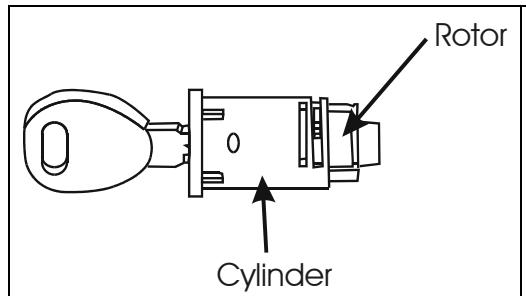
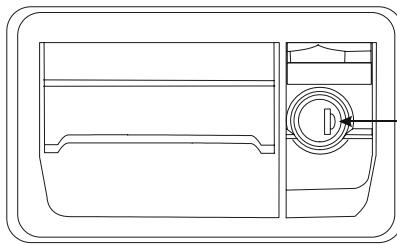
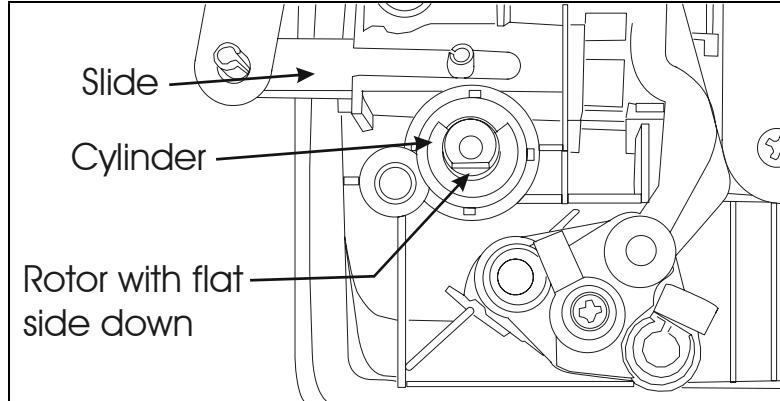

FIGURE 11
FIGURE 12
FIGURE 13
9. Insert the rotor inside the cylinder lock. The cylinder should already be inserted in the handle. The cylinder and rotor assembly (figure 11) must be positioned so that the key-hole is on right (figure 12) and the flat side of the rotor must face down (figure 13).
12. Install the slide onto the handle (figure 13).
4. Insert the rotor inside the cylinder. The cylinder should already be inserted in the handle. The cylinder and rotor assembly (figure 11) must be positioned so that the key-hole is on right (figure 12) when the lock is on neutral position, that is the position where the key can be pulled out.